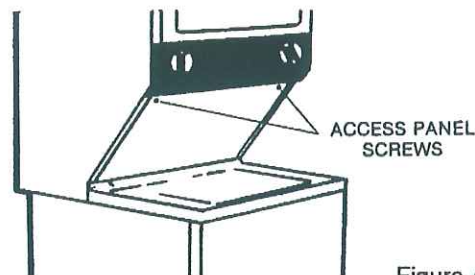

Figure A17
5. Remove the two (2) screws securing front access panel to dryer cabinet, lower panel until bottom tabs can be disengaged from cabinet and remove panel. (Figure A17).